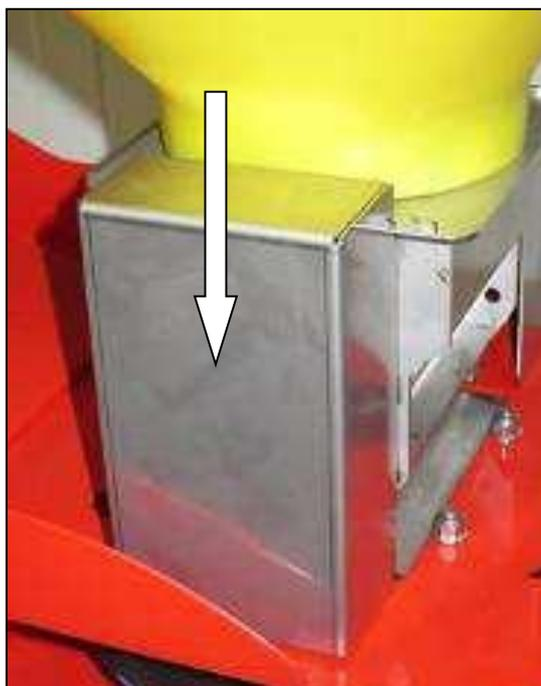

Fig.: 141
- Installing the cover hood for the drive rollers (Fig.: 141)